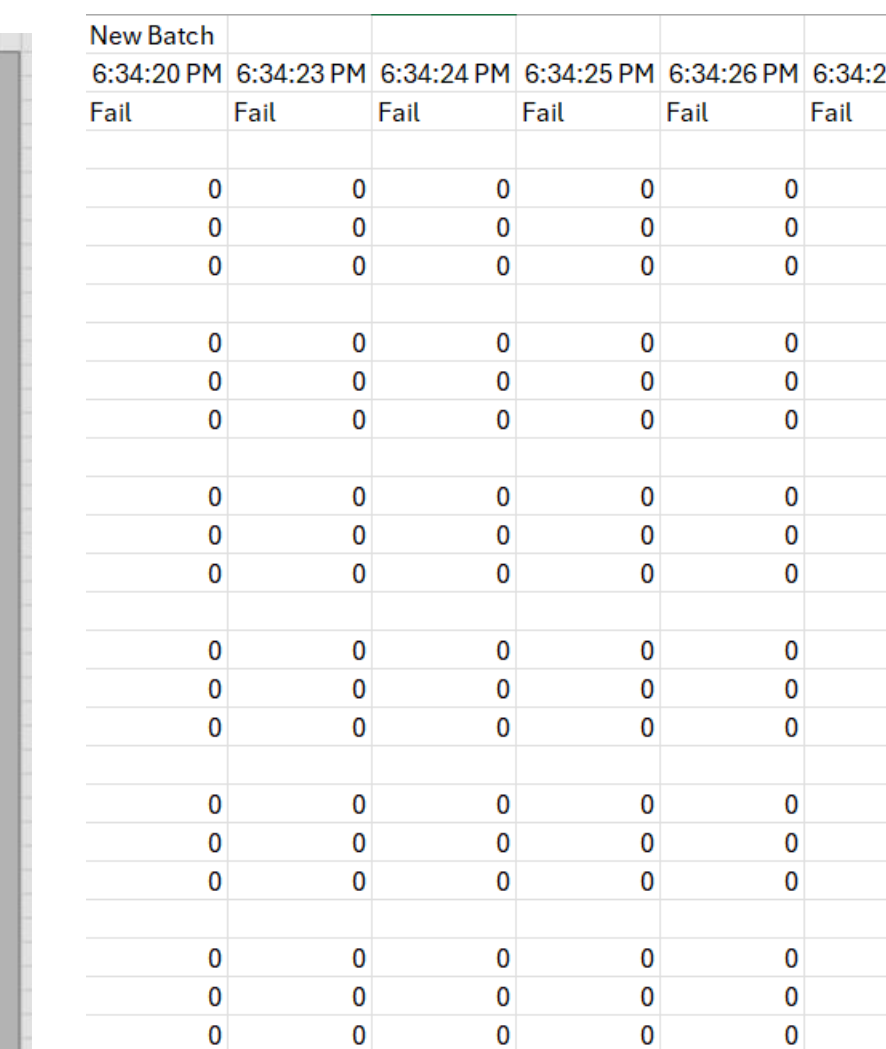

Figure 6. Stress-Test Data
- Collects and displays data for stress test results in excel format (Figure 6).